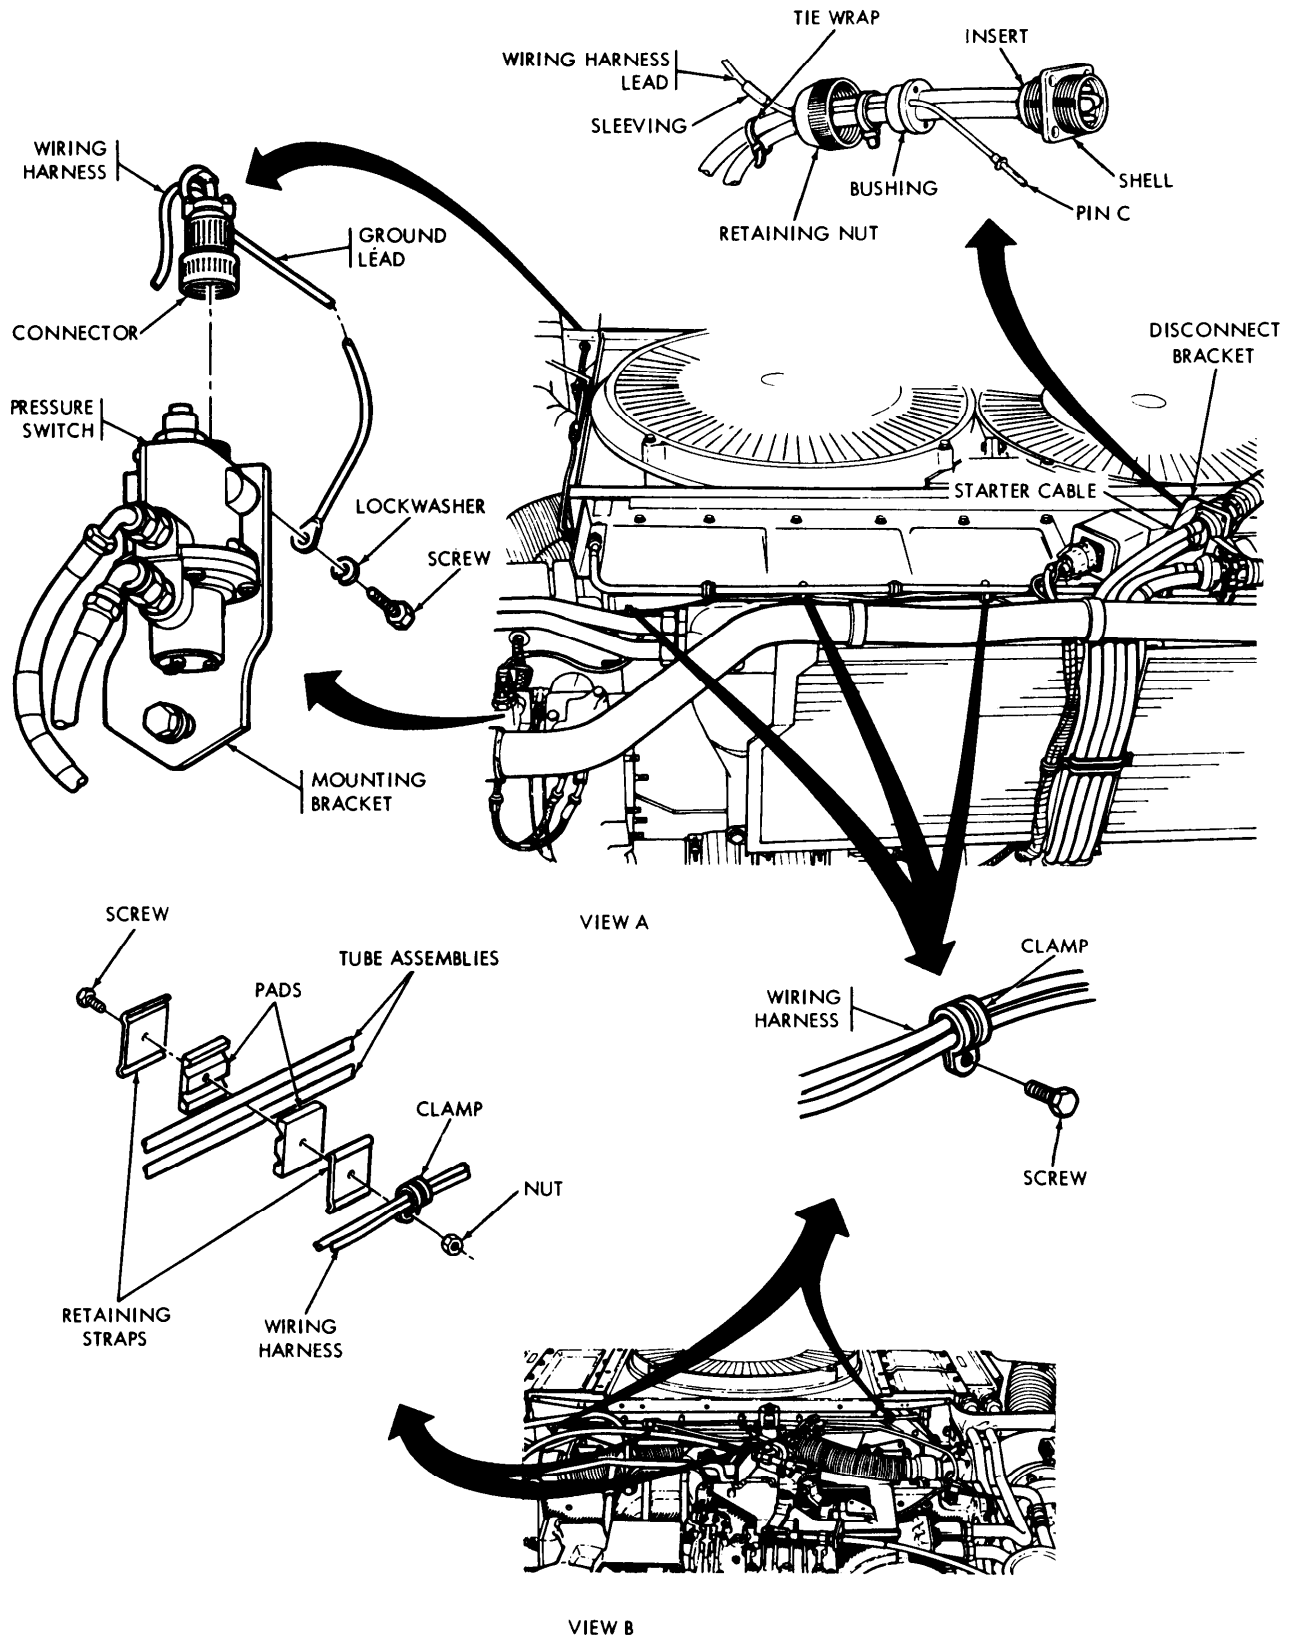

Figure 6-20. Engine wiring harnesses replacement.
c. *Engine Wiring Harness Replacement (Fig. 6-20).*